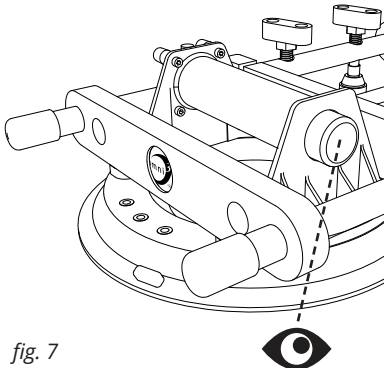

fig. 7
4. Continually monitor thumb pumps until adhesive has cured to ensure red warning collar is not visible. If red warning collar becomes visible, re-pump the thumb pumps. (see fig. 7)